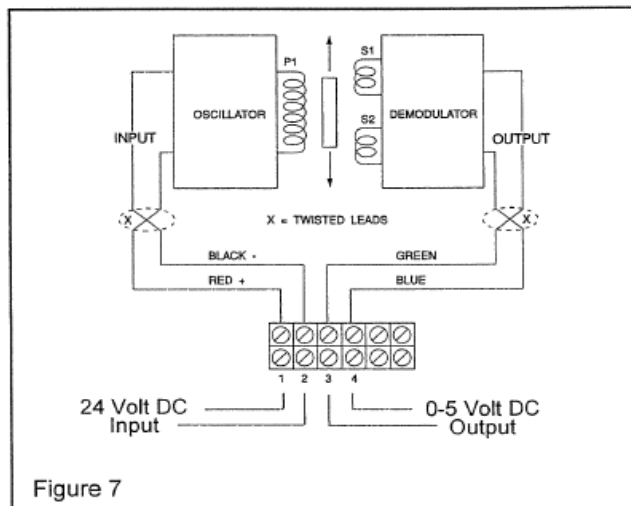

Figure 7
4. Observing correct polarity, connect the input power leads to bottom Terminal 1 and 2 on the Terminal Board. (For correct polarity refer to Figure 7)
2. Connect a voltmeter to Terminal 3 and 4 at the top of the terminal board (See Figure 7).